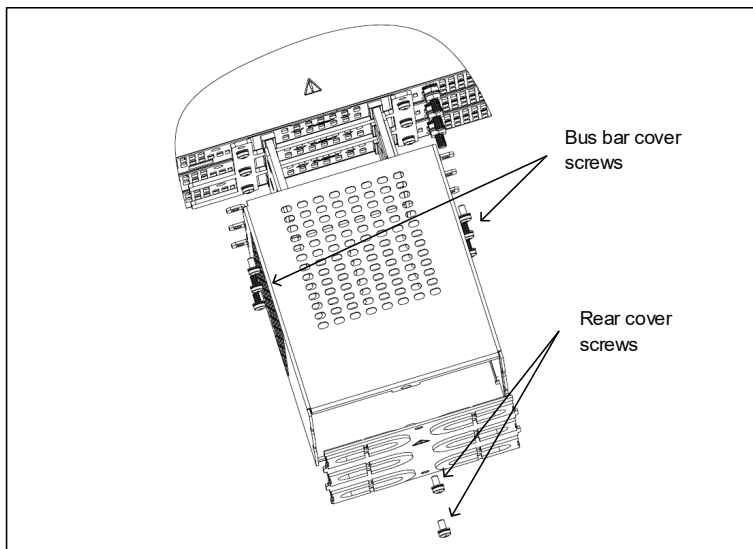

Figure 4-26: Disassembly of Output Protection
1. Open the output protection assembly by unscrewing bus bar cover and rear cover screws as shown in Figure 4-26 (15kW is shown, it applies to 10kW as well. For 10kW, there are 4 Bus bar protection cover screws only).